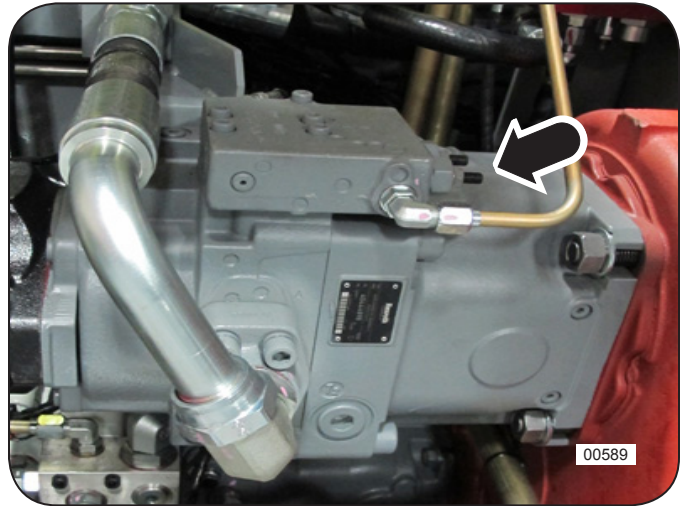

Figure 1: Disconnect Load Sense Line (Typical)
3. Use the 13/16" wrench to disconnect the implement pump's load sense line where it connects to the load sense shuttle valve. See Figure 1.